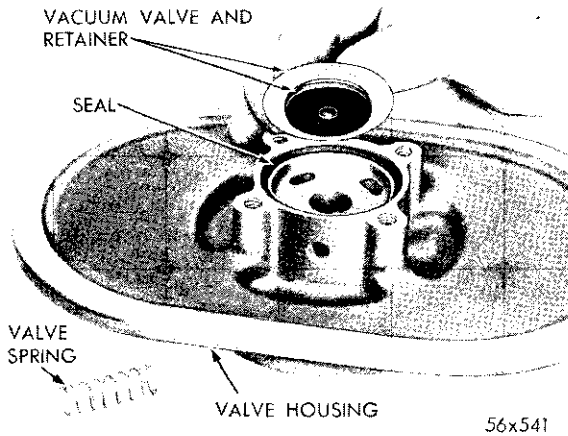
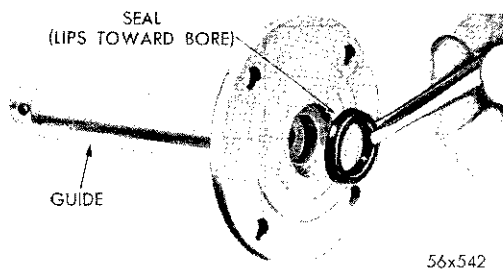

Fig. 34—Installing the Vacuum Valve and Retainers
Fig. 35—Installing the Vacuum Seal
(4) Press down firmly on the retainer to snap it in place (Fig. 34).
(5) Position the new valve housing to guide the seal in the groove provided.
(6) Install a new vacuum seal in the bore guide, with the lip of the seal toward the bottom of bore (Fig. 35).
(7) Install the vacuum valve spring in the center of the valve.
(8) Position the guide over the vacuum valve, lining up the bolt in the guide with bolt holes in the valve body.
(9) Carefully lower the guide down against the valve body, making certain the tapered portion of the vacuum valve enters the seal evenly.
(10) Press down on the guide to seat and install bolts and lockwashers. Tighten the bolts evenly and securely.